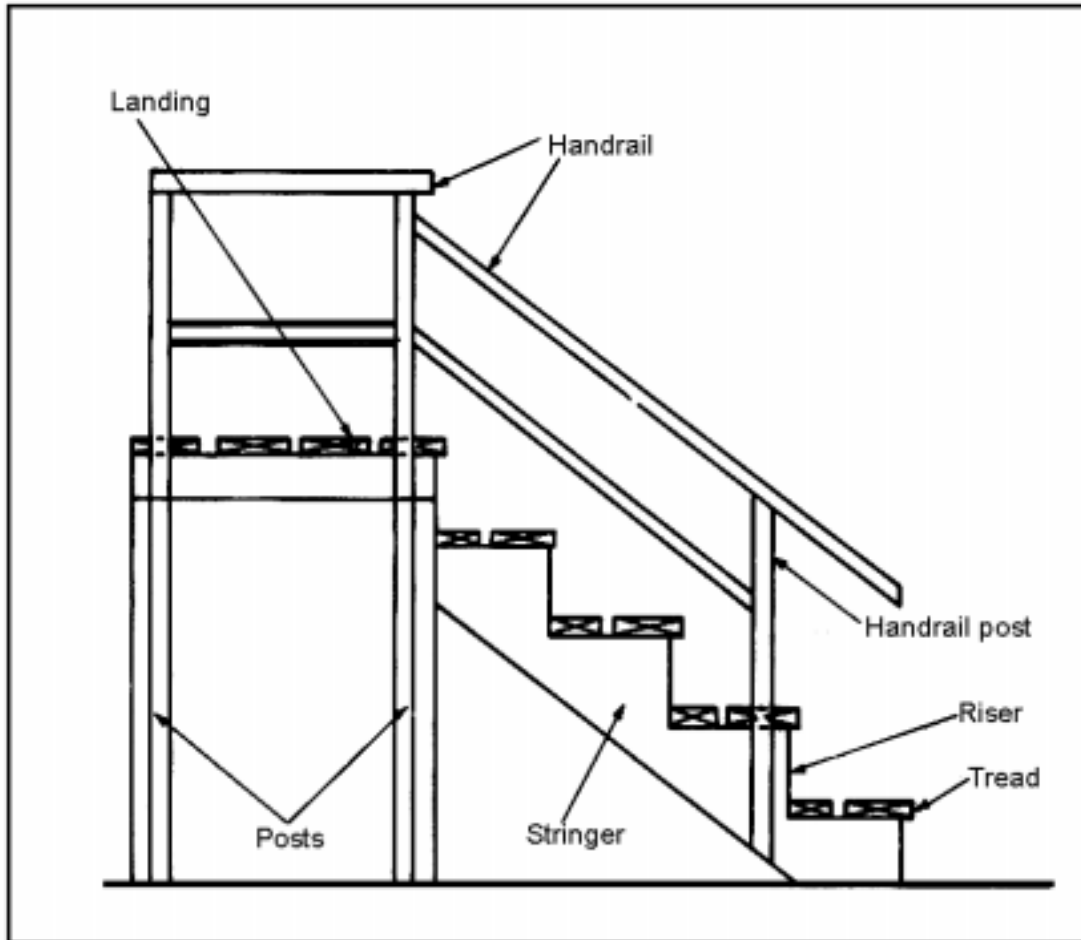

Figure 051-236-1143-1
- (1) Stringer. The stringer will not be cut out, but marked for treads with a pencil.
- (2) Cleats. Small blocks of wood nailed to the stringer to which treads are to be secured.
- (3) Plank treads. Treads that are secured to the cleats.
- (4) Total rise. The total vertical distance from the floor to the next.
- (5) Total run. The total horizontal distance of the stairs (Figure 051-236-1143-1).